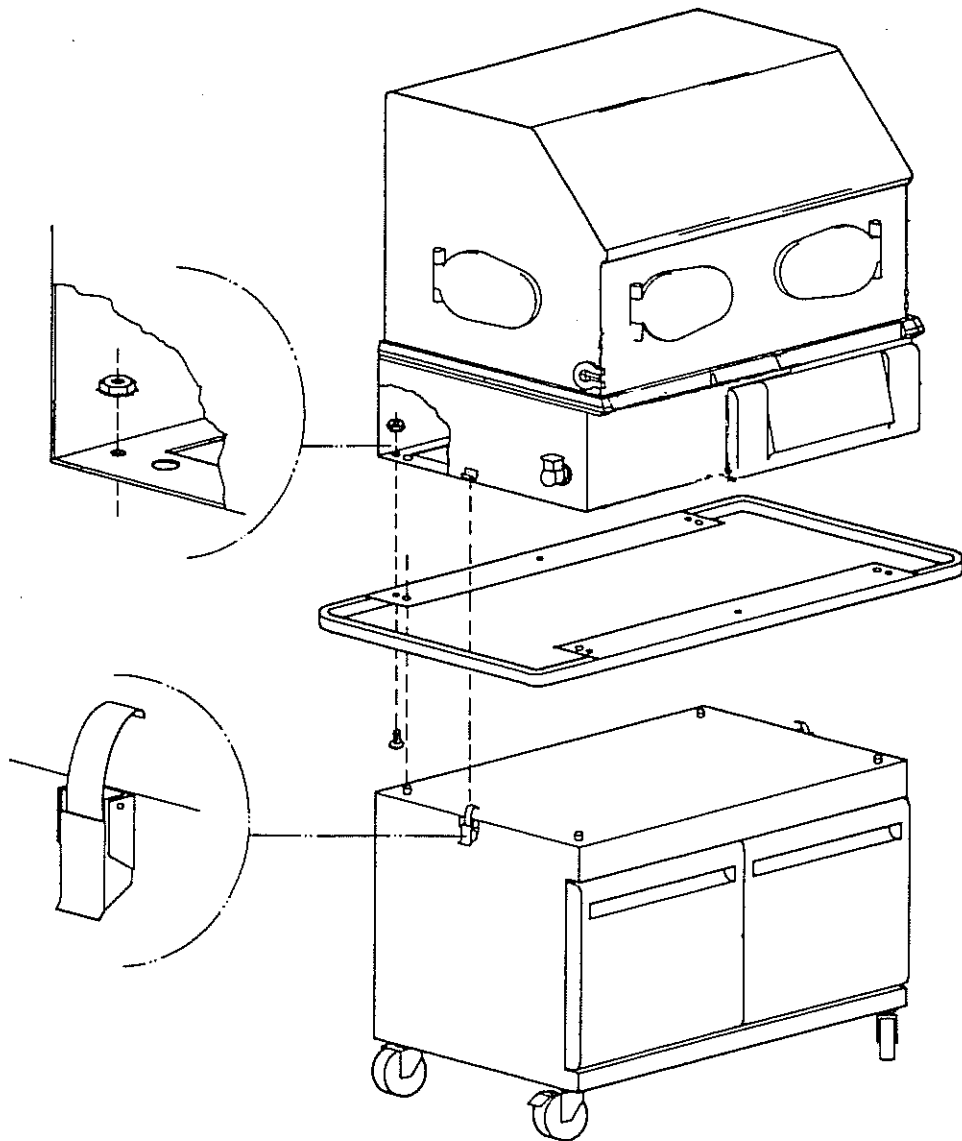

FIGURE 2.1 ASSEMBLY, INCUBATOR MOUNTED ON STANDARD CABINET STAND
- A. **REMOVE THE CONTROLLER FROM THE INCUBATOR.** Attach the Guard Rail to the underside of the Base Assembly using the 6 No. 10 – 32 x 1/2" Screws and Keps nuts supplied (see Figure 2.1). Replace the Controller.
- B. **PLACE THE GUARD RAIL AND BASE ASSEMBLY ON THE CABINET STAND** as shown in Figure 2.1.
- C. **SECURE THE HOOD/BASE ASSEMBLY TO THE CABINET STAND** using the clamp on each side of the Cabinet Stand. Adjust the threaded clamp on the stand for positive latching. Locking bar should be approximately horizontal when clamp is engaged in retainer. Lock clamp by rotating locking bar to vertical position (see Figure 2.1).